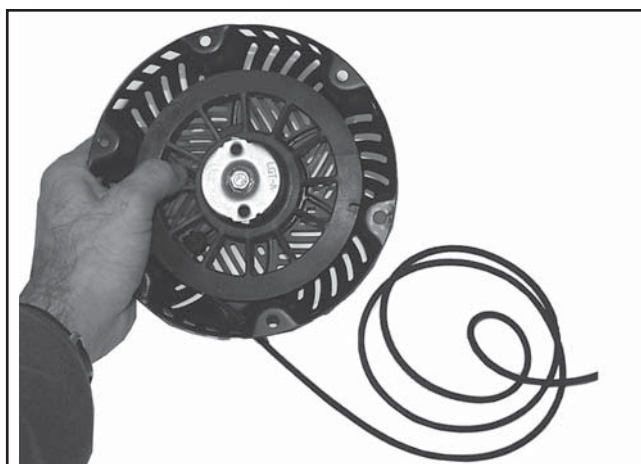

Figure 7-5. Installing Rope.
9. Feed the unknotted end of the rope through the rope hole in the starter pulley and rope guide bushing of the housing. See Figure 7-5.